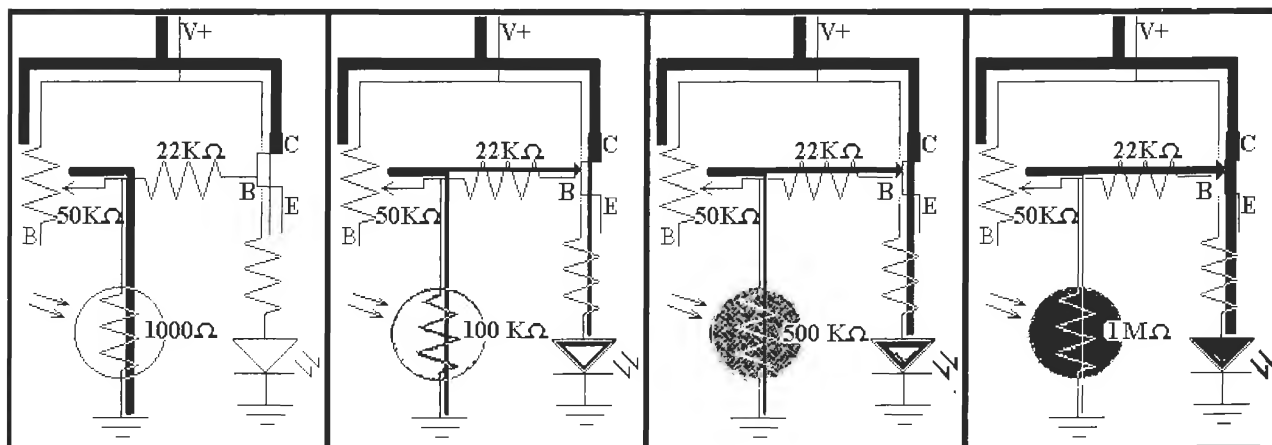

Figure L11-3
Figure L11-3 shows the movement of current and voltage in the circuit as the light changes. Remember the NPN transistor needs positive voltage to its base to turn on.
1. Set the pot so the resistance between legs “A” and “C” center is close to 50-kilo-ohm resistance. Figure L11-3 shows how the voltage and current move in the different conditions for this setup.